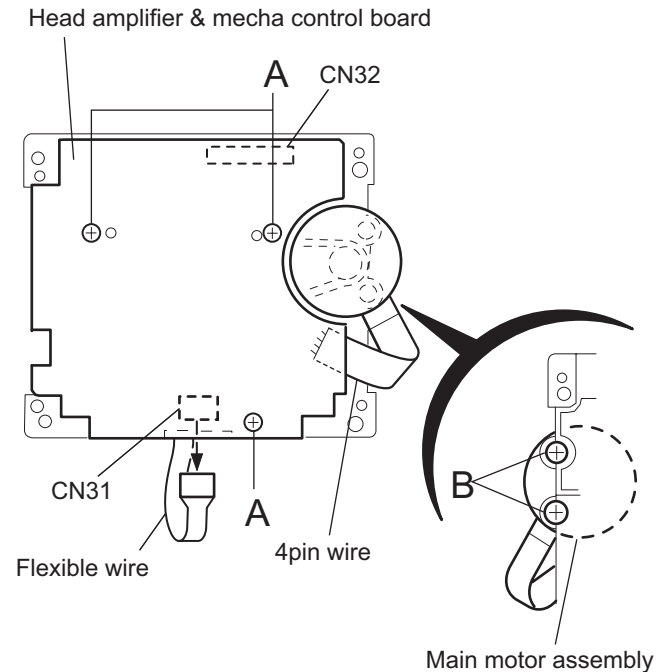

Fig.4
2.5.2 Removing the head amplifier & mechanism control board (See Fig.4)
2.5.3 Removing the main motor (See Fig.4~7)